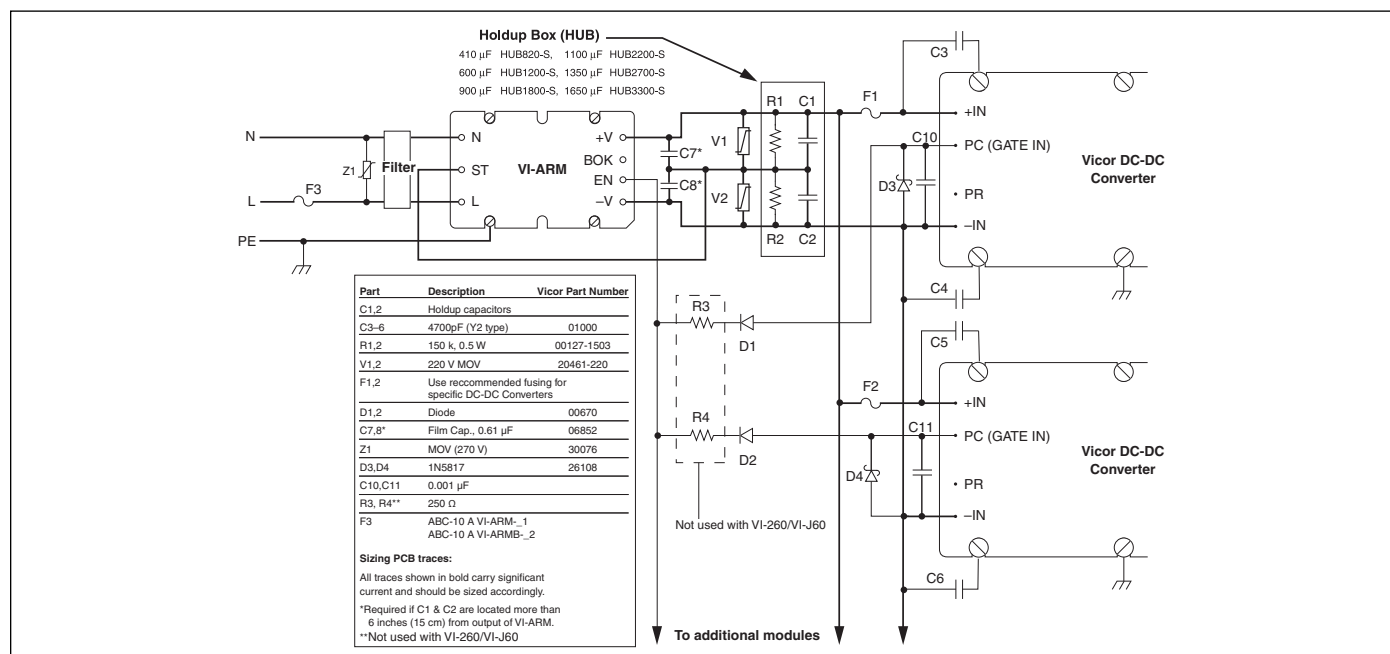

Figure 7–3 — Typical ARM application
Strap (ST) Pin. In addition to input and output power pin connections, it is necessary to connect the Strap pin to the junction of the series hold-up capacitors (C1, C2, Figure 7–3) for proper (autoranging) operation. Varistors across the capacitors provide input transient protection. The bleeder resistors (R1, R2, Figure 7–3) discharge the hold-up capacitors when power is switched off.
Enable (EN) Pin. (Figure 7–4) The Enable pin must be connected to the PC or GATE IN pin of all converter modules to disable the converters during power up. Otherwise, the converters would attempt to start while the hold-up